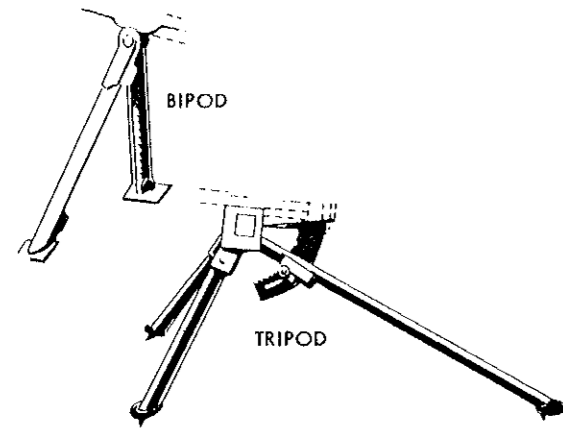

Figure 21.
obsolete or obsolescent in modern armies.) It may be recognized by the unusually long barrel, the muzzle brake, and some form of support such as a monopod or bipod (fig. 21).
- e. A bipod, as shown in figure 21, or, in the case of heavy machine guns, a tripod as shown in figure 21. How is the bipod or tripod attached to the weapon?